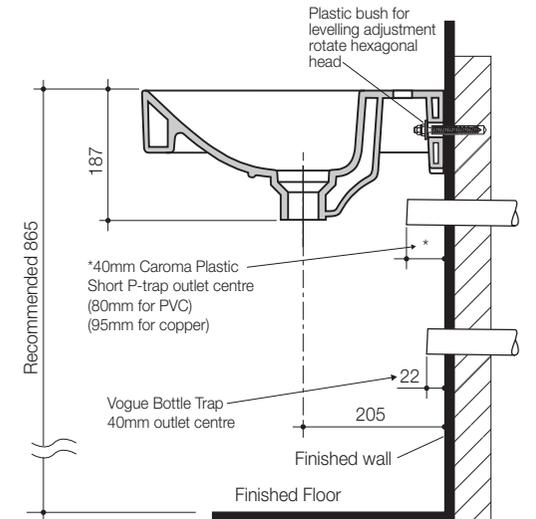

Fig. 4
- 4- Locate basin onto the fixing screws on the wall. Insert plastic bushes, washers and fasten to wall with fixing nut to complete assembly as detailed in **Fig. 4**.
- 5- The plastic bush allows for levelling adjustment if required by rotating the hexagonal head bush, the basin will be slightly raised or lowered as shown in **Fig. 4**.